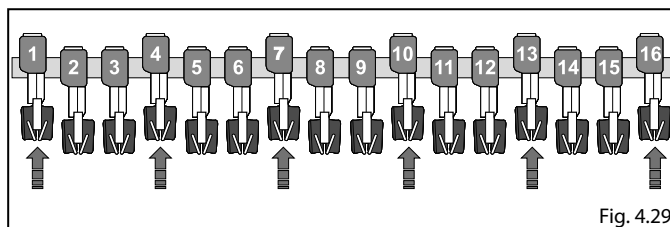

Fig. 4.29
- Position the elements **1 - 4 - 7 - 10 - 13 - 16** in a blocked position (Fig.4.29) (Chapter 4.3).